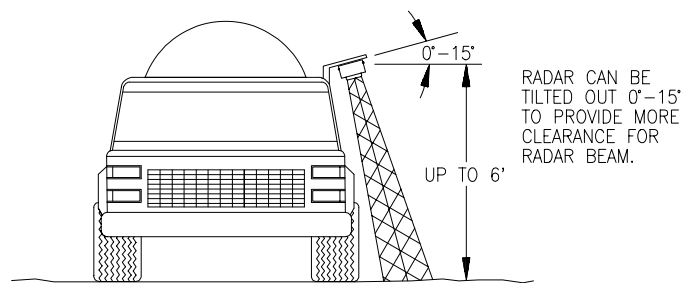

FIGURE 2
- b) The radar lens must be parallel to the ground from front to back. Radar can be tilted out 0-15 degrees to provide more clearance and miss obstructions. See **Figure 2**.